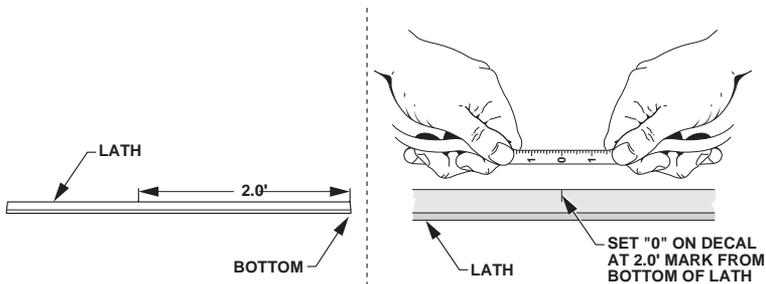

Figure 3-9. Measure Height Above Grade and Place Cut/Fill Decal
- Measure from the bottom of the lath to the desired height above grade, and make a mark at that point. Place the Cut/Fill Decal on the lath with “0” at the marked point (Figure 3-9).